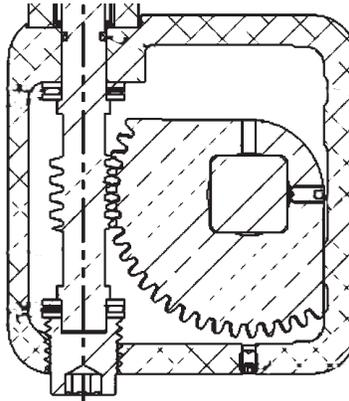

FIGURE 1
5. Install the worm gear (33614001) on the actuator shaft (65944001). With the flat of the valve ball oriented towards the bleeder valve as shown in the drawing above, the flat of the worm gear should be towards the bottom gearcase as shown in Figure 1 below. Install set screw (63619000) using Loctite 243 or equivalent into the worm gear. Tighten to 14-16 in-lbs.